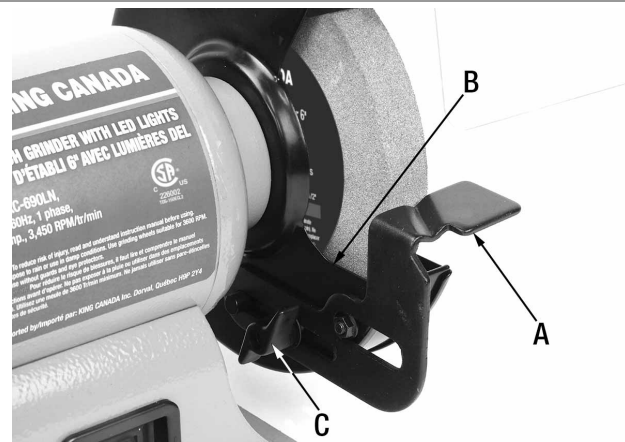

FIGURE 7
1. Position the right side tool rest (A) Fig.7 up against the right grinding wheel guard (B) as shown. Secure right side tool rest using lock knob (C). Repeat for the left side tool rest. As the grinding wheels are worn down, re-adjust the tool rests to maintain a 1/16" distance from the wheel.